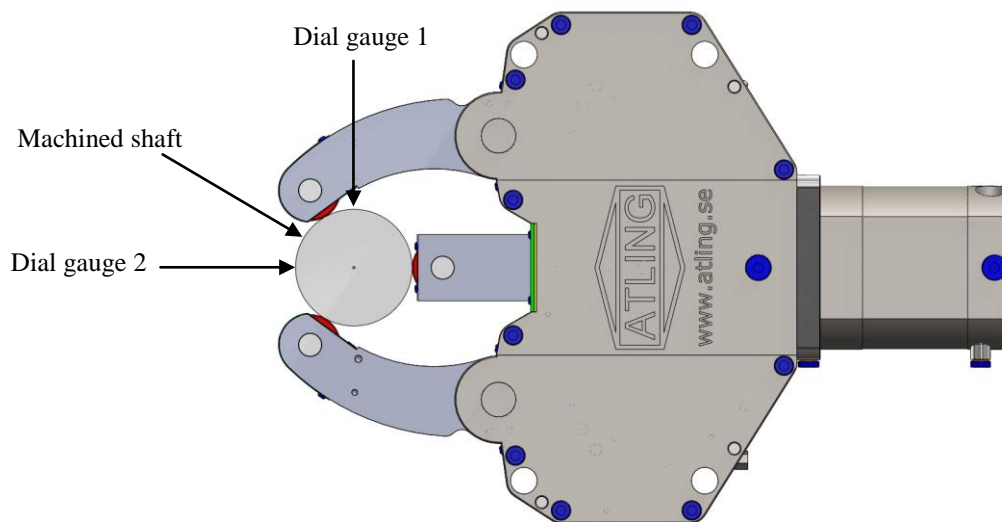

Figure 6. It is important that dial gauges are positioned 90 degrees apart .
- Mount two dial gauges to the shaft as per Figure 6.